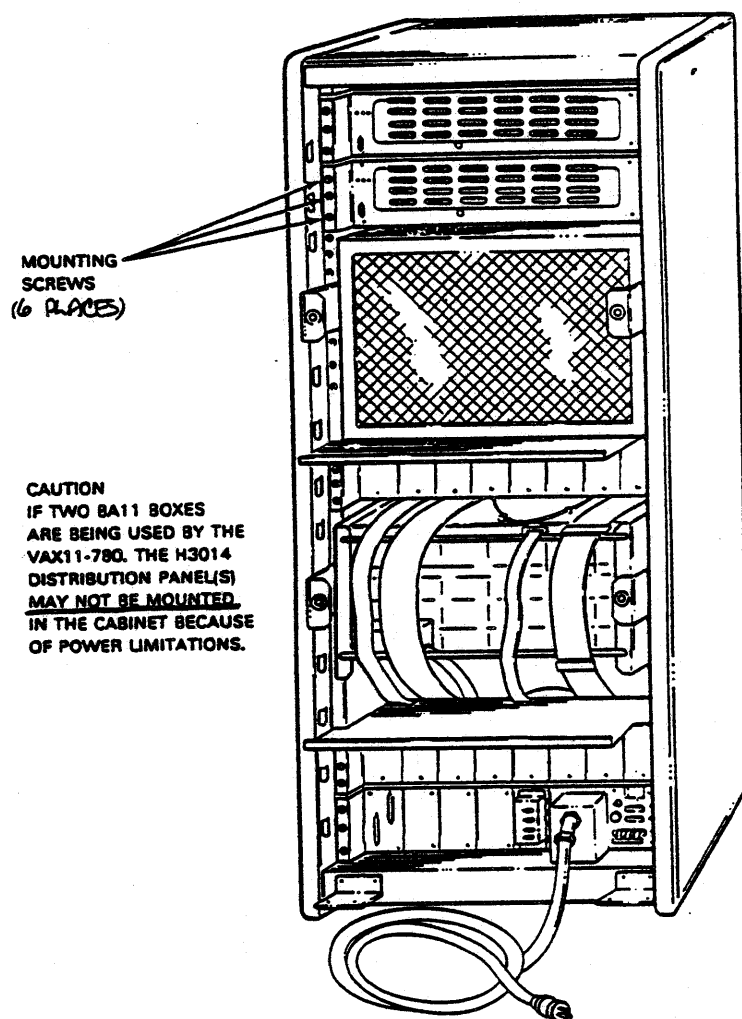

Figure 2-7 Typical H9652-MF (VAX11-780) FCC Shielded Cabinet
6. Position the distribution panel and secure it to the cabinet vertical mounting rails using the six philips mounting screws (Figure 2-7).
7. After the distribution panel is mounted, secure the bottom of the distribution panel to the FCC Bulkhead Frame beneath it using the nine (9) phillips screws that were removed in step 3.